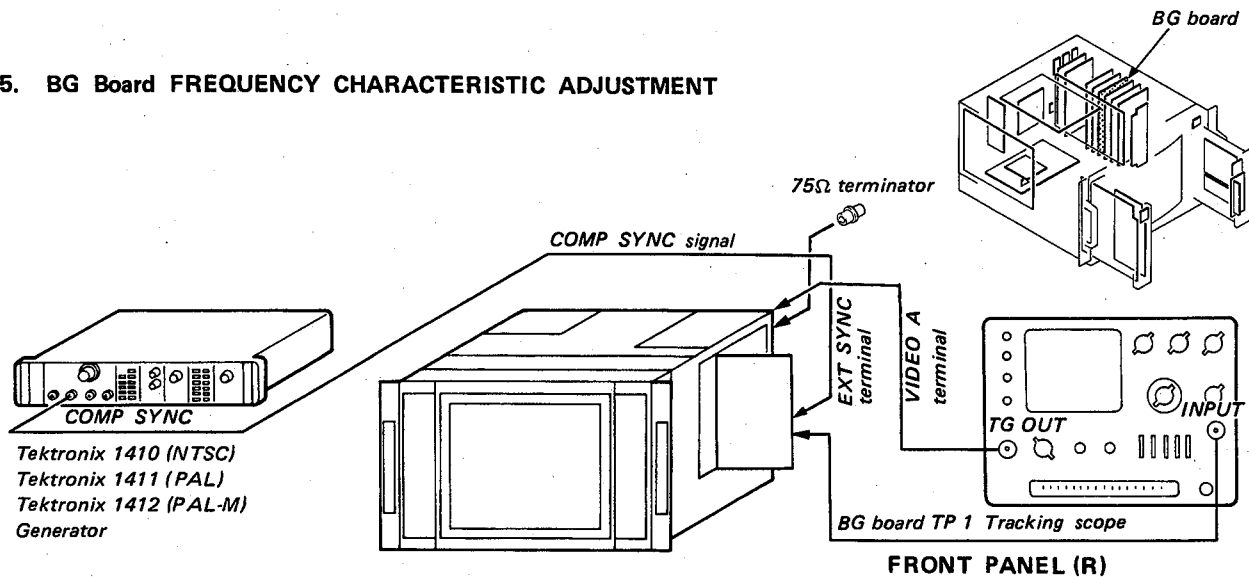

Fig. 5-1
- Complete the connections as shown in Fig. 5-1.
- INPUT selector (FRONT PANEL (R)) . . . . . A ( ☐ )
- SYNC selector (FRONT PANEL (R)) . . . . . EXT ( ☐ )